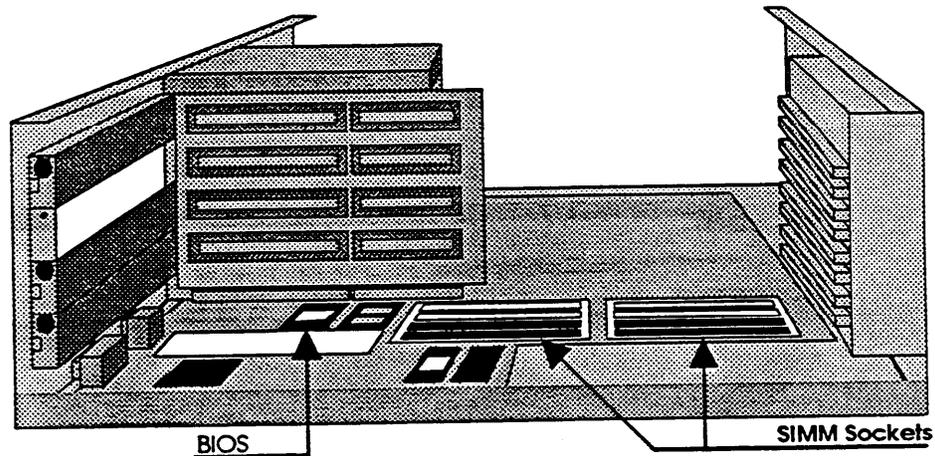

Figure 3-5. Location of SIMM Sockets Underneath Expansion Boards
5. Locate the SIMM sockets. They are underneath any expansion boards that have been installed as shown in Figure 3-5.